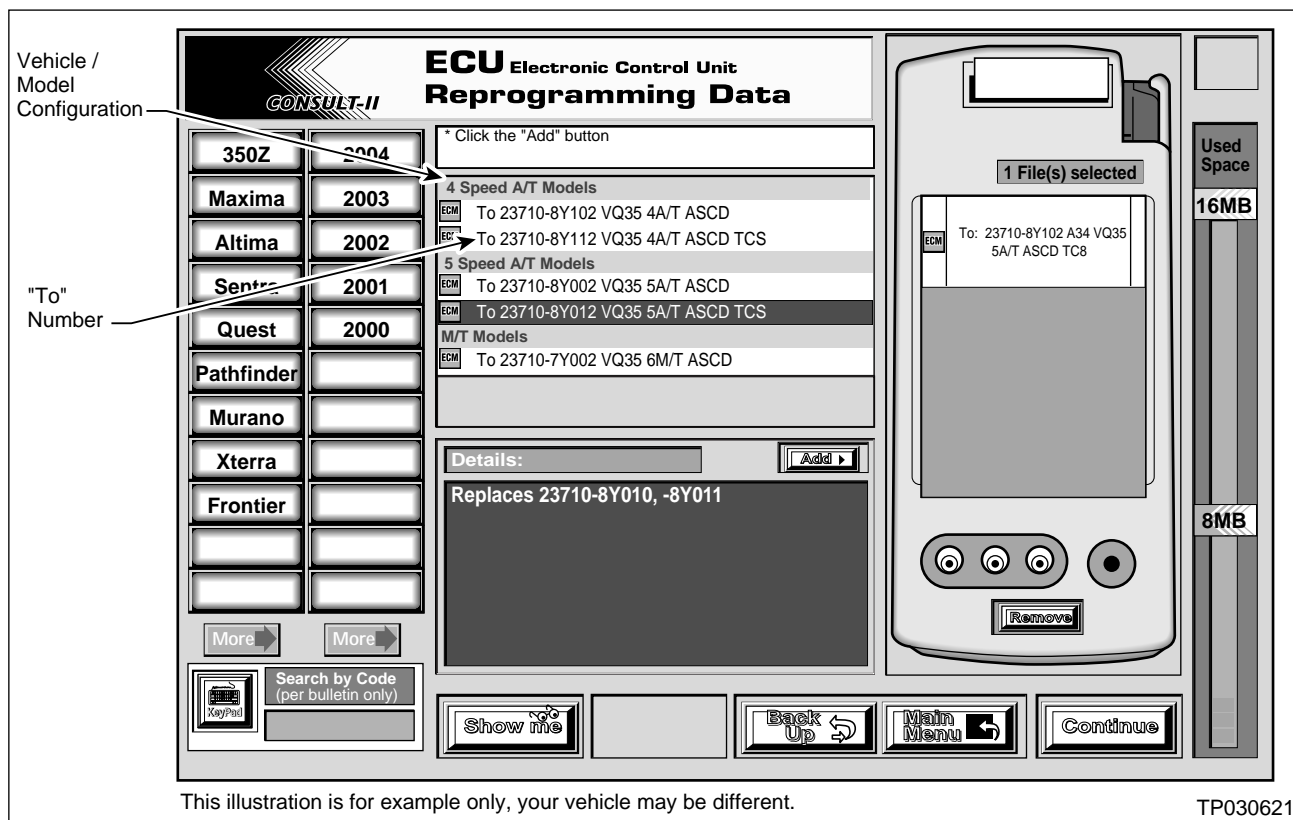

Figure 5
7. Select the "ECU REPROGRAMMING DATA" (see Figure 5) as follows: